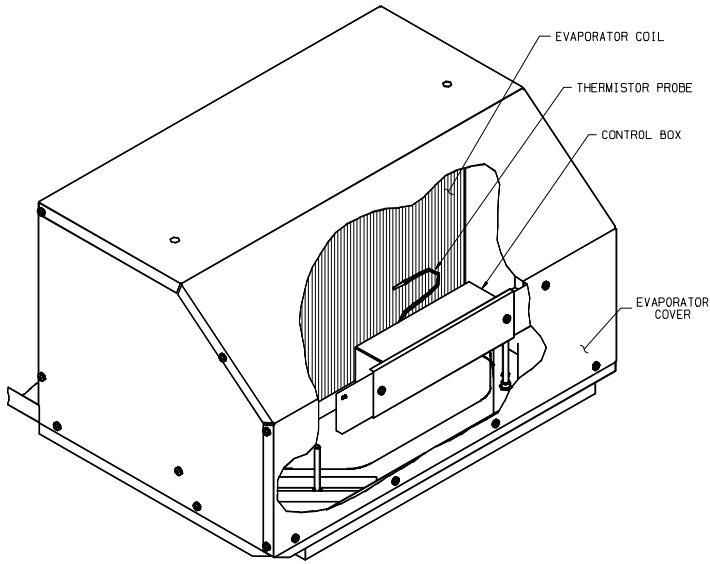

FIGURE 4
9. Two (2) machine screws will be found on the upper units. The control box will be mounted by positioning the control box over the screws and using the supplied wing nuts to fasten the control box to the upper unit enclosure (Refer to Figure 4).
11. Insert the evaporator freeze sensor between the evaporator fins near the bottom center of the evaporator and between the bottom two tubes (See Figure 4). Insert straight in until contacting the staggered tube directly in back of the insertion point. When contact has been made, elevate the exposed end of the sensor approximately 45 degrees, then continue insertion at a 45 degree angle until the sensor is completely embedded into the evaporator.